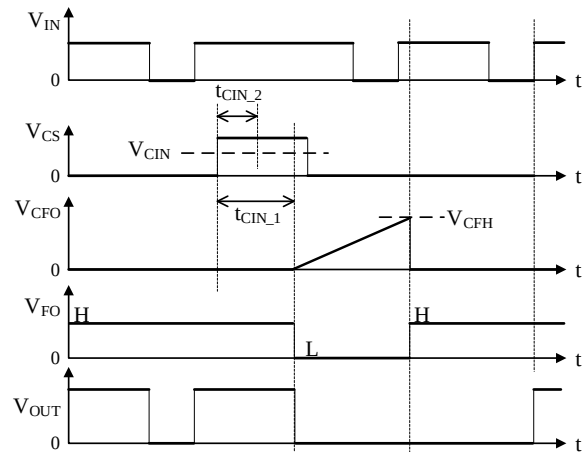

Figure 10-5. Overcurrent Protection Operational Waveforms 1
and turns the FO pin status into high (see Figure 10-5). The approximate value of  $t_{WFOP}$  is calculated by Equation (1) (see Section 10.1).